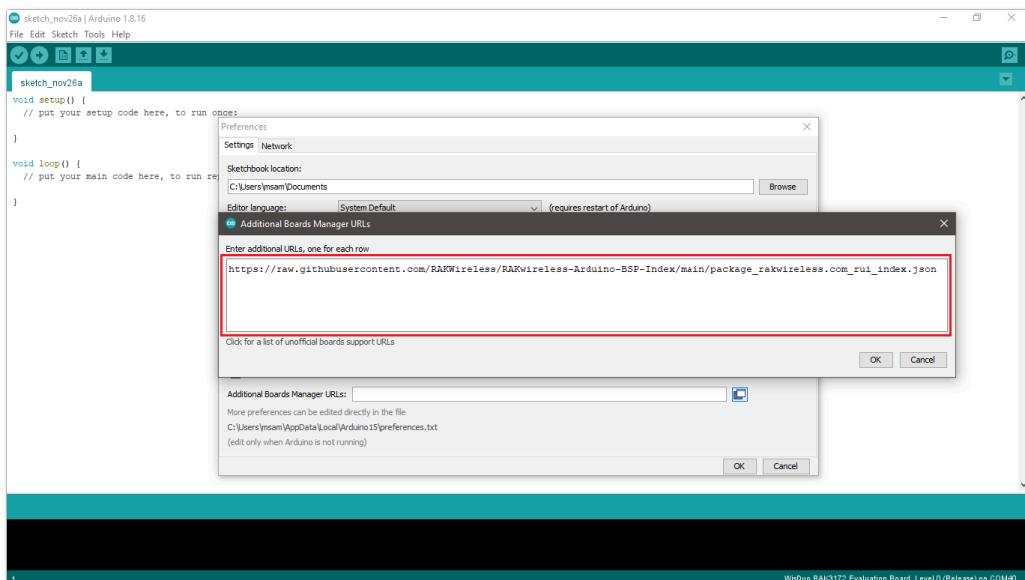

Figure 6: Add additional board manager URLs
3. Copy the URL [https://raw.githubusercontent.com/RAKWireless/RAKwireless-Arduino-BSP-Index/main/package\\_rakwireless\\_com\\_rui\\_index.json](https://raw.githubusercontent.com/RAKWireless/RAKwireless-Arduino-BSP-Index/main/package_rakwireless_com_rui_index.json) and paste it on the field, as shown in **Figure 6**. If there are other URLs already there, just add them on the next line. After adding the URL, click **OK**.